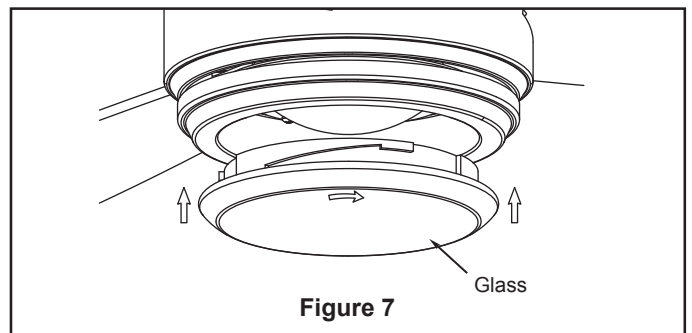

Figure 7
7. Secure the glass to light plate assembly by twisting in a clockwise direction. Do not over-tighten. (Figure 7)